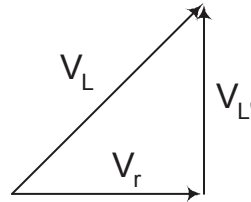

Figure 7.4: Pure Inductance Voltage Drop.
5. Your measurement of V_L is actually a phasor combination of the voltage drop across the resistance of the copper wire in the coil and the voltage drop resulting from induction ($V_{L'}$). As the phasor diagram in Fig. 7.4 shows, At resonance $V_{L'}$ and V_C are nearly equal in magnitude. Notice that V_L (the phasor sum of V_r and $V_{L'}$) is expected to be slightly larger in magnitude than V_C . Is V_L actually slightly larger than V_C according to your measurements? Discuss in your conclusion.